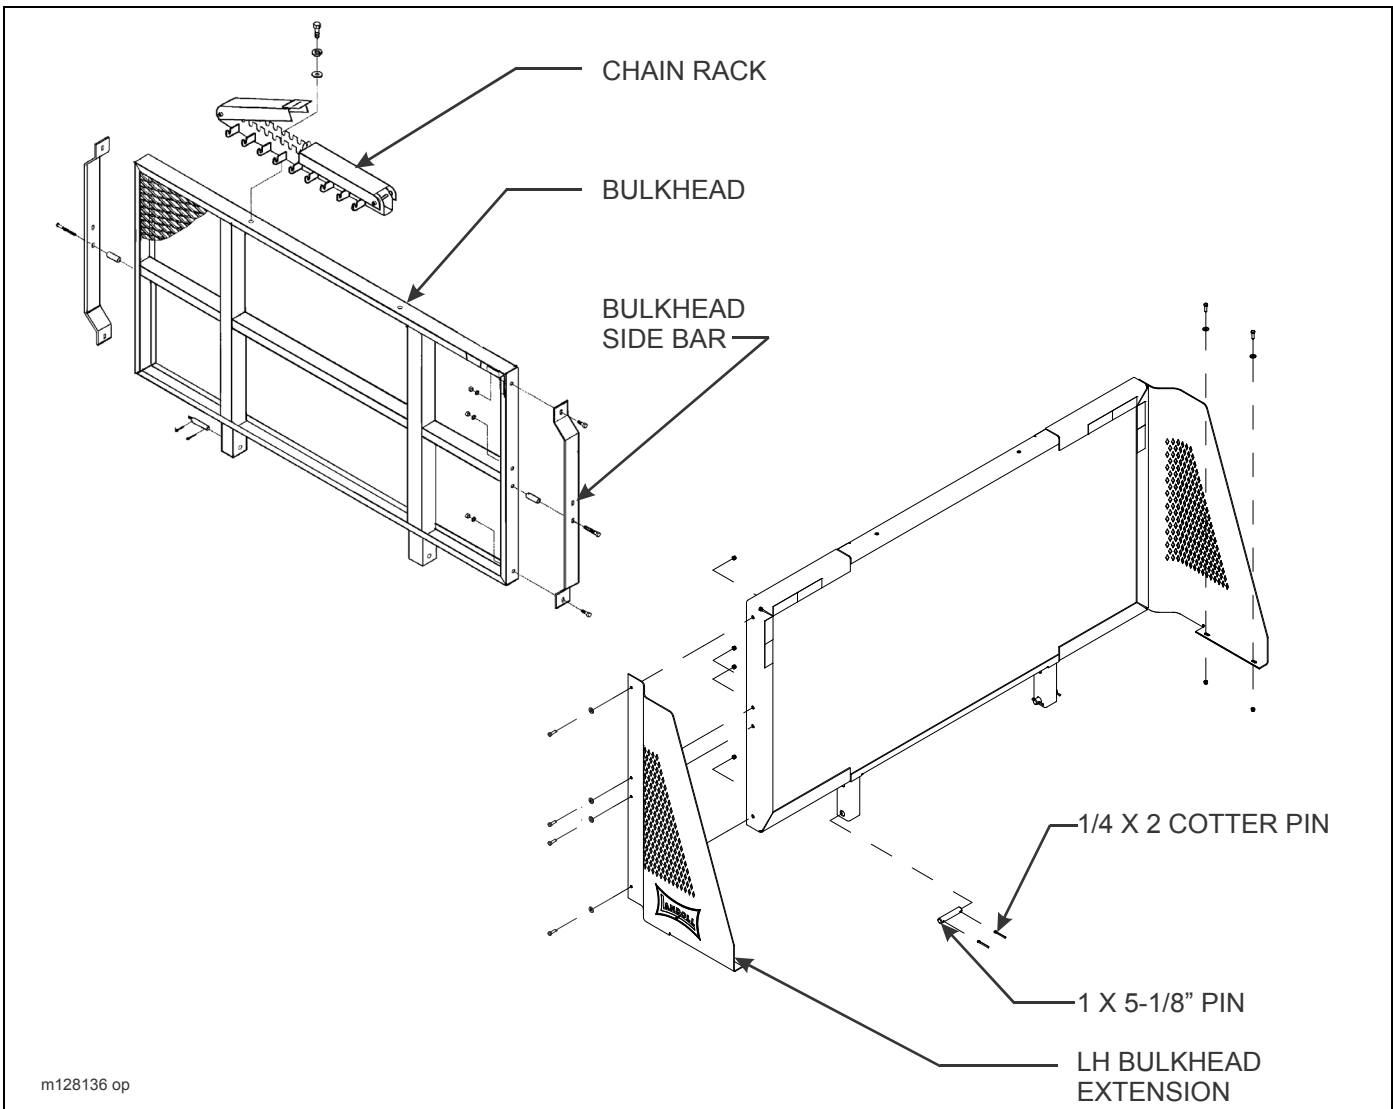

Figure 3-14: Bulkhead (Option)
1. Optional bulkheads may come with or without chain racks. To remove a bulkhead, disconnect the electrical harness (if work lights are present), remove retaining pins holding the bulkhead into the pockets on the semitrailer front and bolts and nuts attaching the bulkhead extensions and supports to the deck, and lift the bulkhead off (See Figure 3-14.)